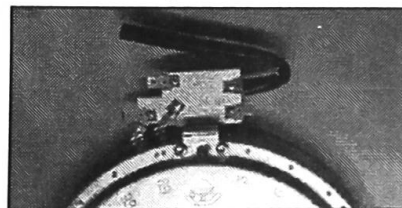

FIGURE 4
5. Connect extension wire to range harness and appropriate terminal block location. Place the tube so it completely covers the terminals. See *Figure 4*.